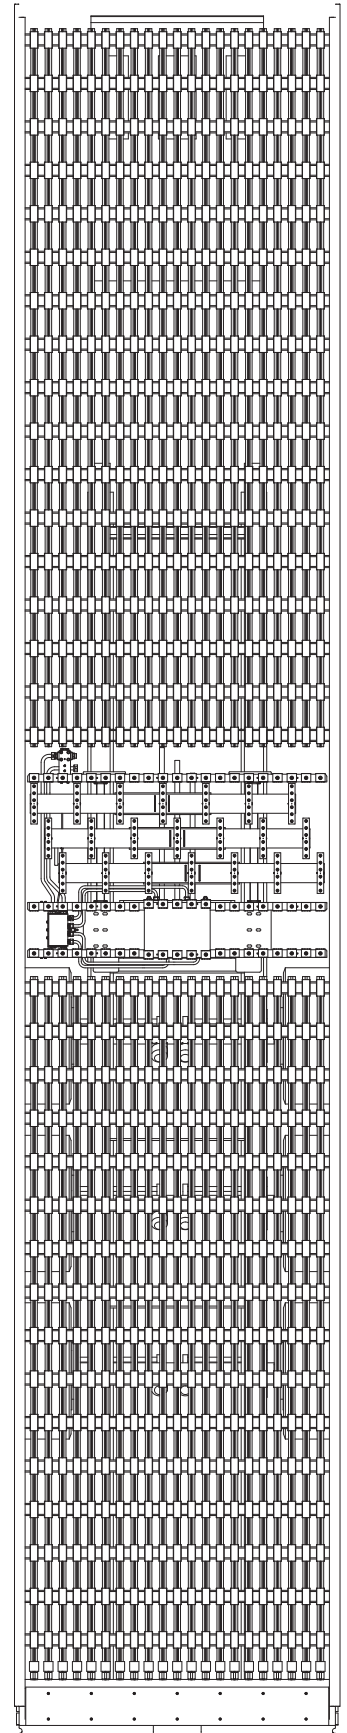

Figure 1
1. Install one row of aluminium bearing stops (Hallco #41-6621) on either side of the NEXUS™ drive unit. Bearing stops do not need to be installed over a cross member (fig. 1).